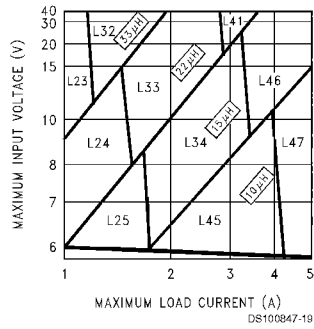
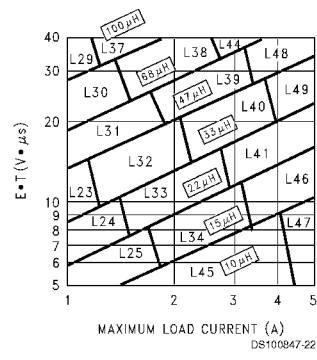

FIGURE 3. LM2679-3.3
FIGURE 6. LM2679-ADJ
**Step 3:** Determine the inductor required by using one of the four nomographs, *Figure 3* through *Figure 6*. Table 1 provides a specific manufacturer and part number for the inductor.
**Step 5:** Determine an input capacitor from Table 4 for fixed output voltage applications. Use Table 2 to find the specific capacitor type. For adjustable output circuits select a capacitor from Table 2 with a sufficient working voltage (WV) rating greater than  $V_{in\ max}$ , and an rms current rating greater than one-half the maximum load current (2 or more capacitors in parallel may be required).
**Step 3:** Use the nomograph for the 3.3V device, *Figure 3*. The intersection of the 16V horizontal line ( $V_{in\ max}$ ) and the 4A vertical line ( $I_{load\ max}$ ) indicates that L46, a 15 $\mu$ H inductor, is required.
**Step 3:** To use the nomograph for the adjustable device, Figure 6, requires a calculation of the inductor Volt•microsecond constant ( $E \cdot T$  expressed in  $V \cdot \mu\text{s}$ ) from the following formula:
Using Figure 6, the intersection of 27V• $\mu\text{s}$  horizontally and the 3.5A vertical line ( $I_{load}$  max) indicates that L48, a 47 $\mu\text{H}$  inductor, or L49, a 33 $\mu\text{H}$  inductor could be used. Either inductor will be suitable, but for this example selecting the larger inductance will result in lower ripple current.
**Important Note:** When using the adjustable device in low voltage applications (less than 3V output), if the nomograph, Figure 6, selects an inductance of 22 $\mu\text{H}$  or less, Table 6 does not provide an output capacitor solution. With these conditions the number of output capacitors required for stable operation becomes impractical. It is recommended to use either a 33 $\mu\text{H}$  or 47 $\mu\text{H}$  inductor and the output capacitors from Table 6.